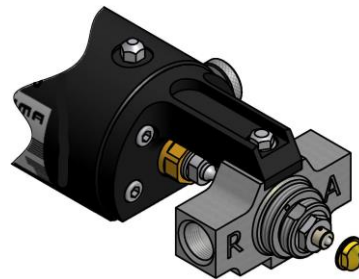

Figure. 11
10. Remove the PCD and clean it with gun-cleaning solvent (see **Figure. 11**).
8. Remove the PCD and clean it with gun-cleaning solvent (see **Figure. 11** page 14).